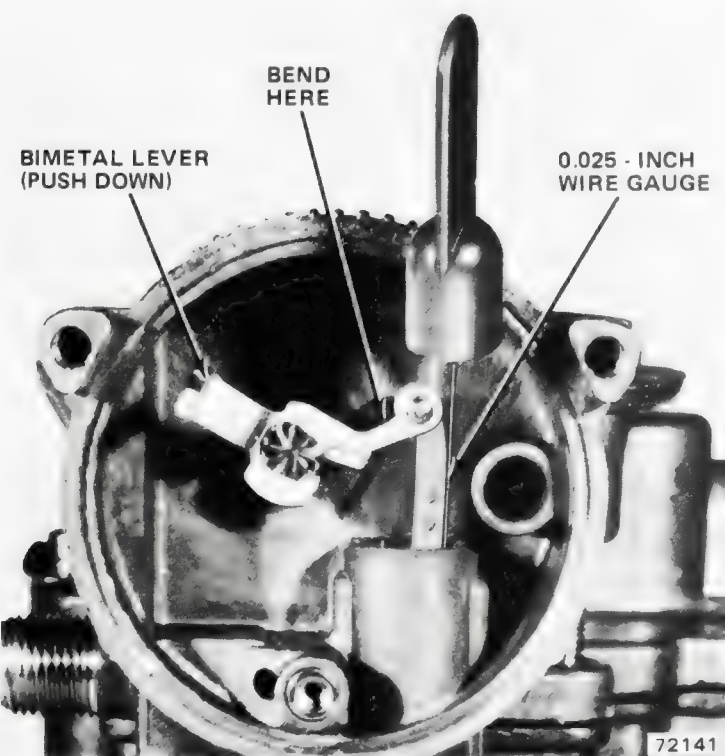

Fig. 1J-54 Initial Choke Valve Clearance Adjustment
(1) Bend 0.025-inch wire gauge at 90° angle approximately 1/8 inch from end.
(2) Remove coil housing, gasket and baffle plate.
(3) Partially open throttle and close choke valve to position choke piston at top of its bore.
(4) Holding choke valve fully closed, release throttle and insert wire gauge into piston slot, against outboard side (right side of choke shaft) of piston bore. Push piston downward with gauge until bent end of gauge enters slot in piston bore. With gauge in place, push on choke shaft bimetal lever in counterclockwise direction to move piston upward, locking gauge in place (fig. 1J-54).